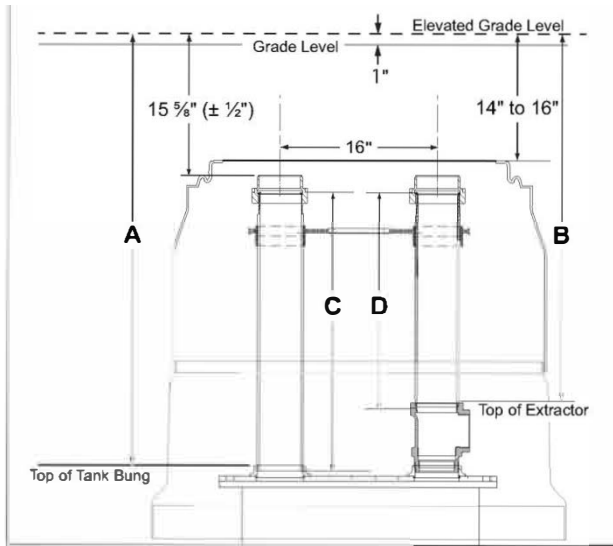

Figure 2: Installation Using M/F 4x4 Riser Adapters NPSM (Straight Thread) Buckets
1. Cut tank risers to length. Measurements include adding 1" slope above the grade line (Figures 2 or 3). If a different slope is used, adjust accordingly.